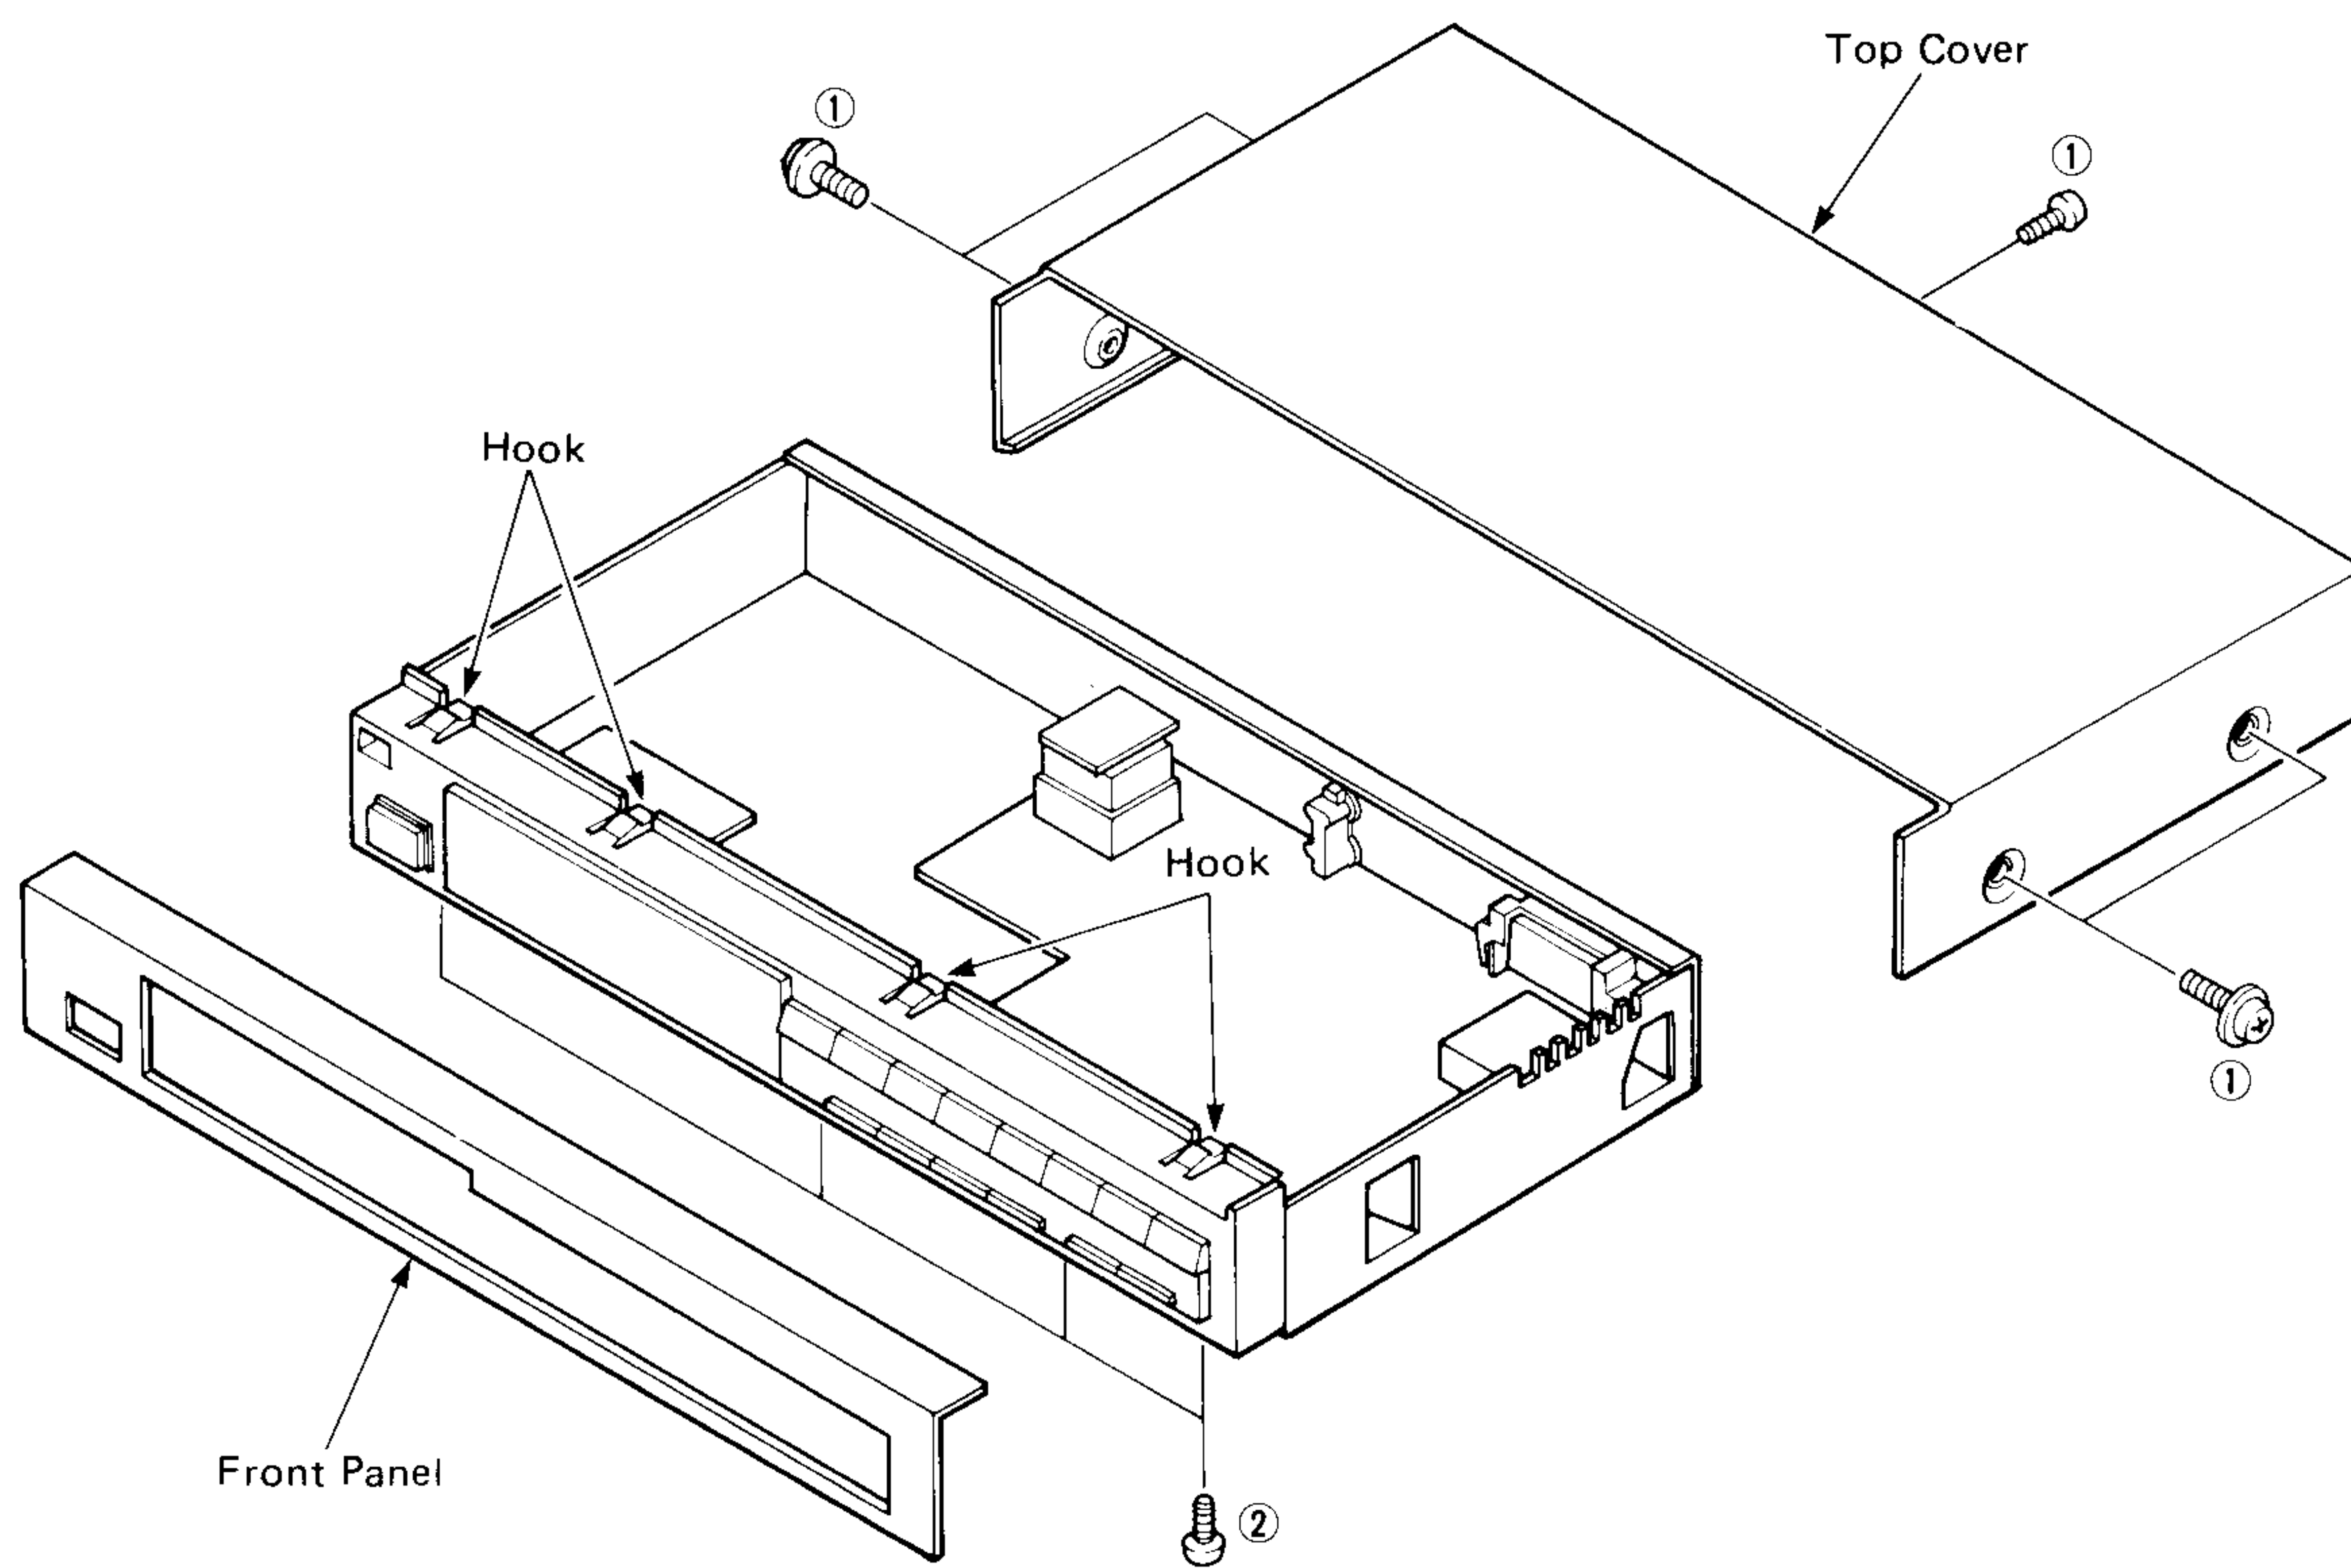

Fig. 1
Remove 5 screws (①) in Fig. 1, and slide the Top Cover back.
Remove 4 screws (②) and 3 hooks in Fig. 1, and pull the Front Panel forward.